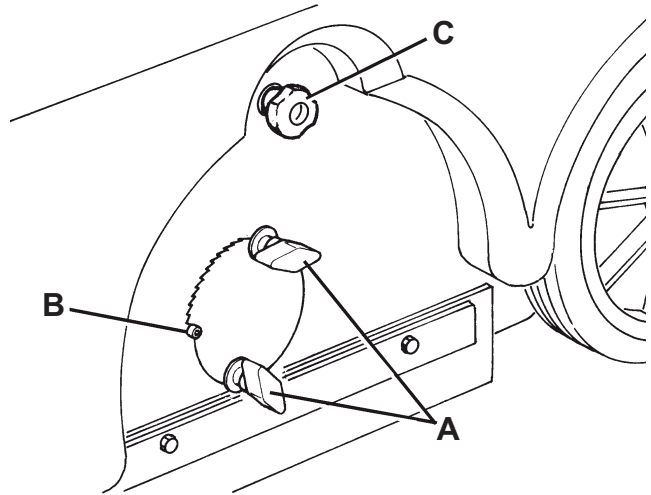
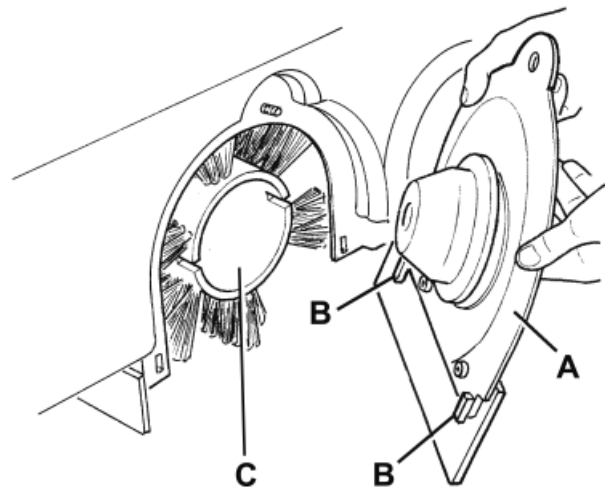
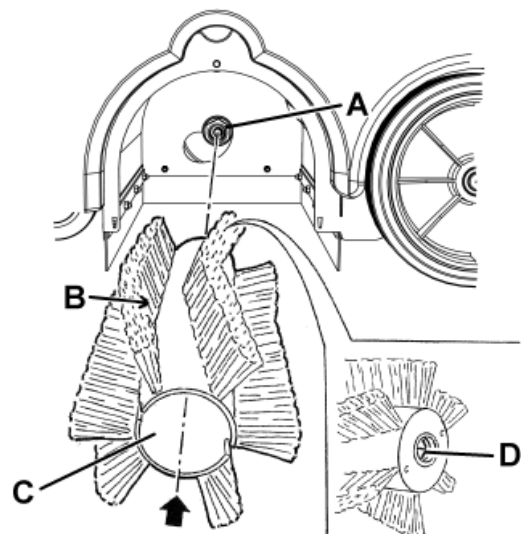

Figure 4
Figure 5
Figure 6
2. Turn the ignition switch (72) to "0".
3. Loosen the knobs (A, Fig. 4) on both sides of the machine.
4. Move the height variation indicators (B) until the broom is at the maximum distance from the ground. Tighten the knobs (A).
5. On the left side of the machine, loosen the knob (C).
6. Remove the broom door (A, Fig. 5) by pulling it upwards to disengage the fasteners (B).
7. Remove the broom (C).
8. Check that the drive hub (A, Fig. 6) is free from dirt or foreign materials (ropes, rags, etc.) accidentally rolled up.
9. The new main broom must be installed with the bristles rows (B) bent as shown in the figure.
10. Install the new broom (C) and ensure that the mesh (D) correctly fits into the relevant drive hub (A).
11. Install the broom door (A, Fig. 5) by engaging the fasteners (B).
12. Tighten the knob (C, Fig. 4).